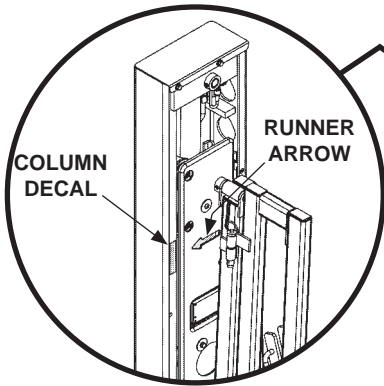
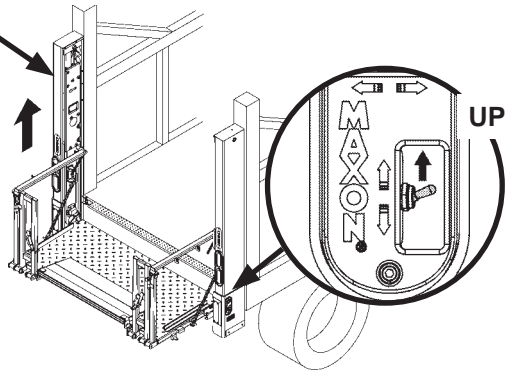

FIG. 26-1B
FIG. 26-1A
1. Use the column switch to raise (**UP**) platform (**FIG. 26-1A**) until runner arrow and column decal on LH column are aligned (**FIG. 26-1B**).